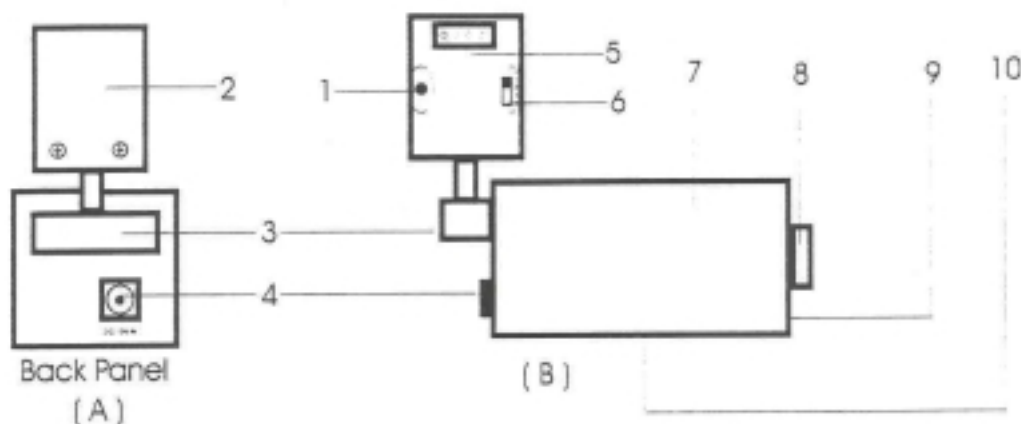
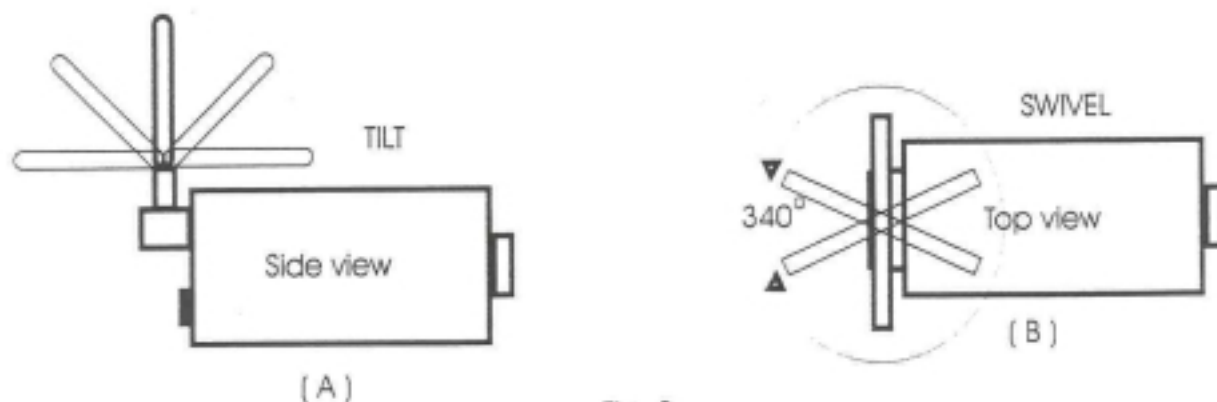

Fig. 1
Fig. 2
- 2) Plug the adapter into the DC INPUT socket on the back panel, please see fig. 1 (A) . A camera lens protective cap, installed when the CCD camera is not in used or while transporting the unit, remove it.
- 3) You should notice a bright Power ON LED indicator, see fig. 1 (B), this means the unit is operating.
- 4) Select channel 1 , channel selector slide switch on the front panel of PATCH antenna. Fig. 1 (B), direct the PATCH antenna to the RECEIVER`S point of area where the choice of location you wish to put. The PATCH antenna SWIVELS 340 degrees and TILT angle 90 degrees, fig. 2 ( A ) and ( B ). Alignment and realignment of the PATCH antenna is important to achieve RECEIVER`S audio/video significant output quality. Especially more than one CCD camera are to be installed from different locations, as shown below.